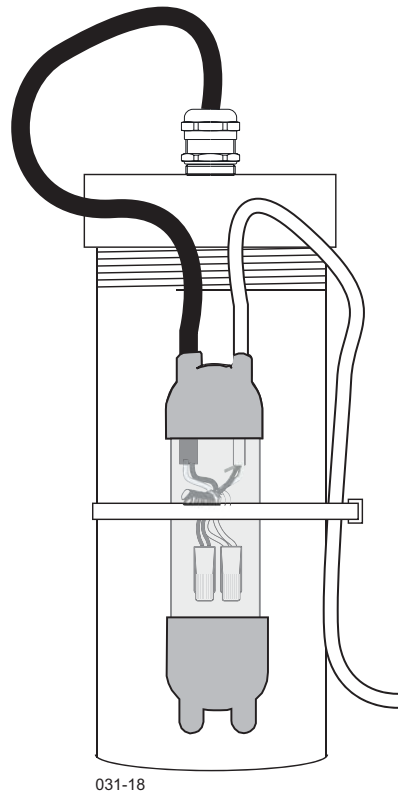

Figure 23. Securing Splice Enclosure With Cable Tie
10. Wait at least five minutes, then use the large cable tie to mount the splice to the riser pipe or probe canister as applicable (see Figure 23).